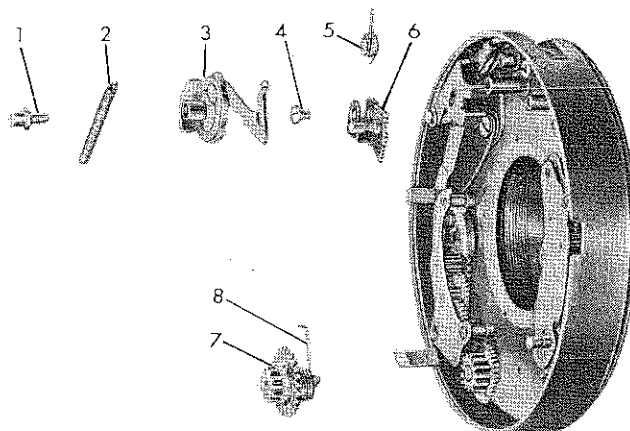

Figure 37—Parts on Shutter Mechanism Plate, Partially Exploded (I)
(a) Lift out the No. 1 gear with No. 1 pinion and spring assembled (12). If necessary, replace the delayed action winding spring (8, figure 37), inserting the short end of the spring through the hole in the gear.